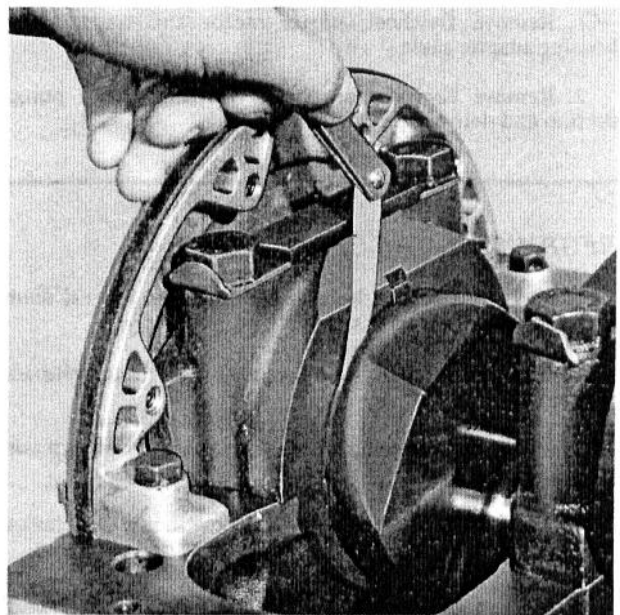

Fig. 23 — Measuring Crankshaft End Play
2. Measure the gap between the machined shoulder on the crankshaft web and the crankshaft thrust washer as shown in Fig. 23.